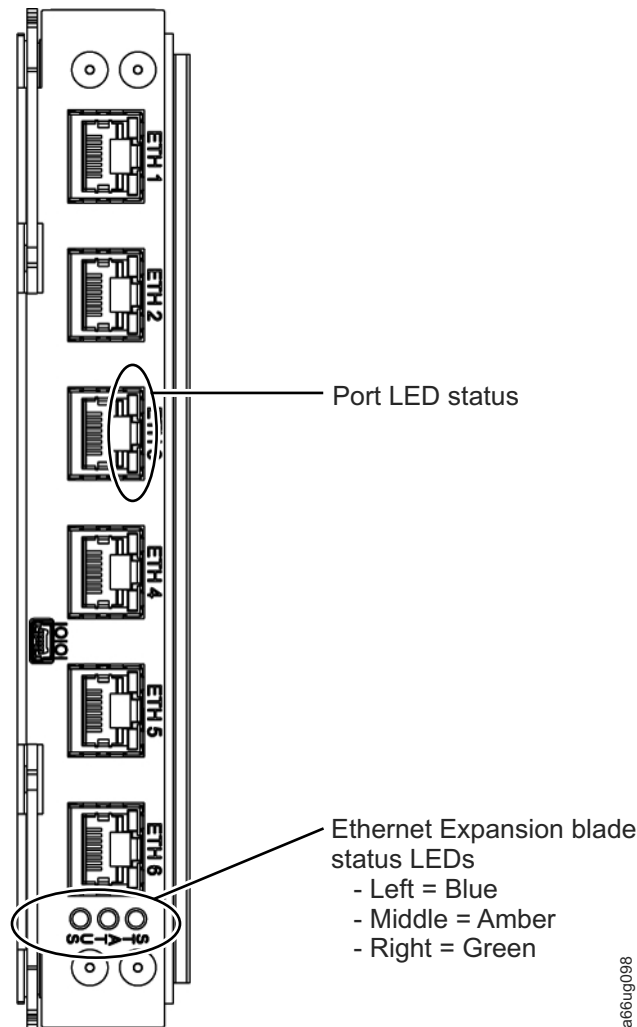

Figure 12-46. Ethernet Expansion Blade LEDs
13. Verify that the Ethernet Expansion Blade is in the "Ready" state by checking the LEDs on the Ethernet Expansion Blade. The green LED flashes once per second, the blue LED flashes once every 10 seconds, and the amber LED is off. See Figure 12-46 on page 12-51.